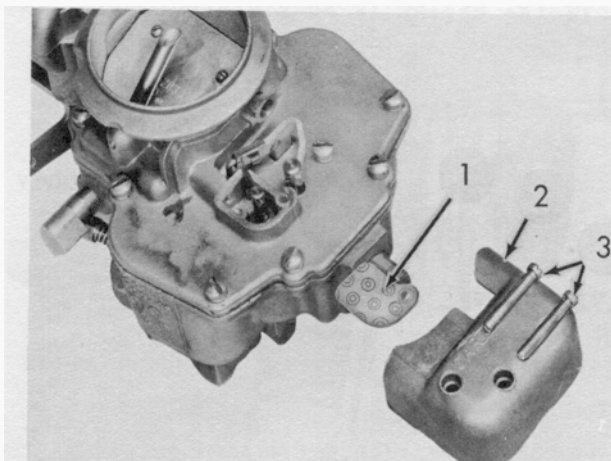

Fig. 8
Loosen the retaining cap screws (3, Fig. 8) in the carburetor dust cover and remove the cover (2). Remove screws and gasket (1) from the dust cover,